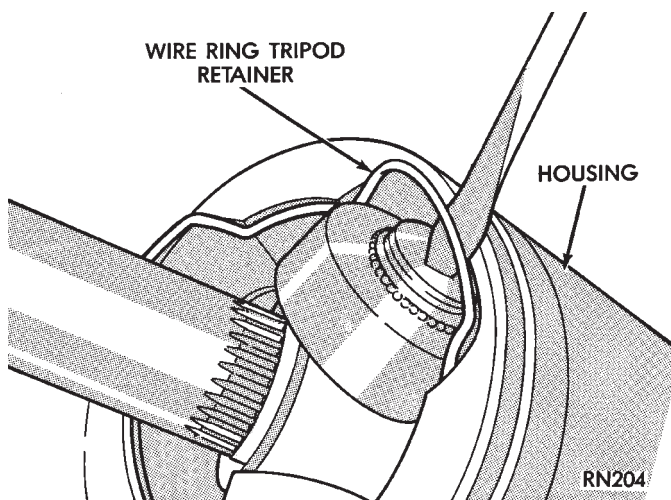

Fig. 2 Separate Tripod From Housing S.S.G.
With the driveshaft removed from the vehicle, identify the unit type (See Fig. 2 under Driveshafts Identification).
(2) Depending on the type of C/V joint assembly, separate the tripod from the housing as follows:
S.S.G. Utilizes a wire ring tripod retainer which expands into a groove around the top of the housing. Use a flathead screwdriver to pry the wire ring out of the groove and slide the tripod from the housing (Fig. 2). **Do not mangle or destroy retainer during disassembly.**